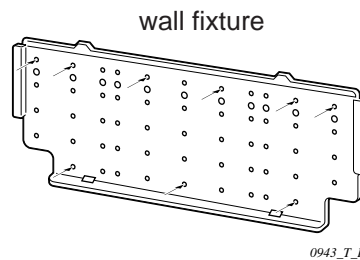

Fig. 3-28
- (1) Attach the wall fixture to the wall with the 9 screws provided. (Fig. 3-28)